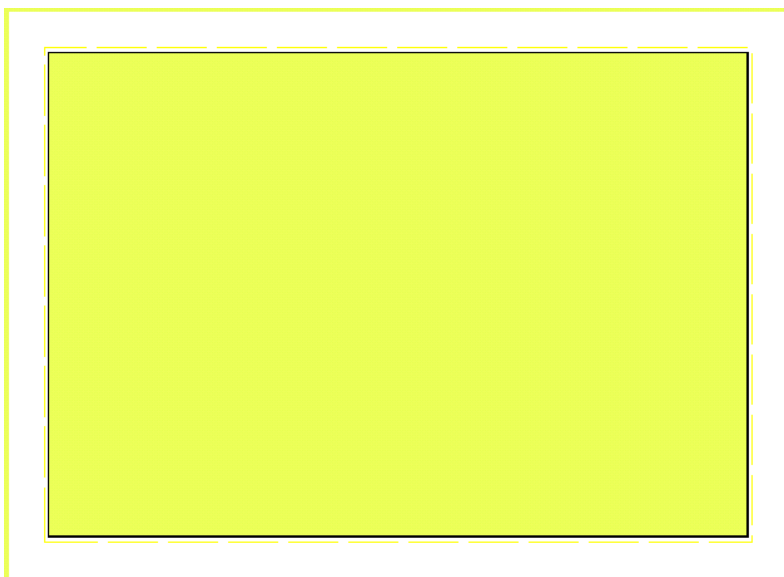

Figure 4-94
17. Select *Modify/Clear Selection* and then *Modify/Select Object*, click on the diagonal line and click the <Delete> key. See Figure 4-94.